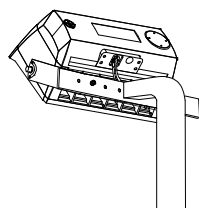

Figure 13
- STEP 2:** Knock the expansion bolts into the wall. (FIGURE 13)